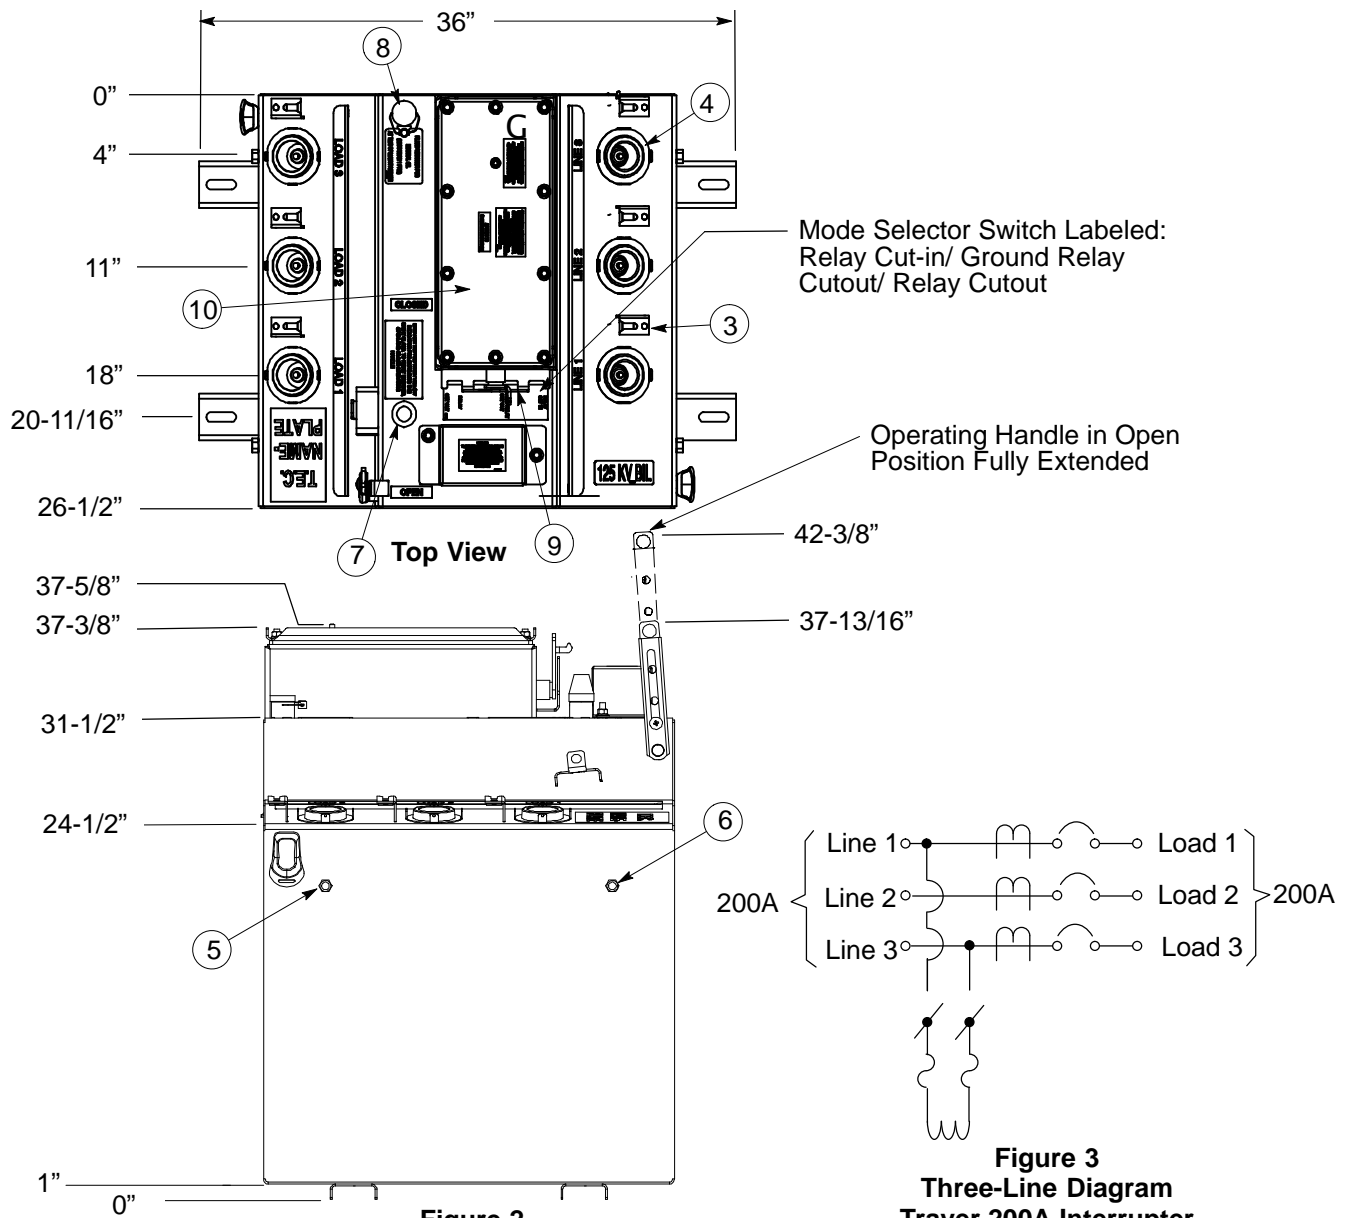

Figure 2
- (1) The internal relay is a Schweitzer SEL-551 (or 551C) microprocessor-based relay which contains surge protection, event recording, and harmonic filtering. The harmonic filtering will prevent nuisance tripping due to harmonics. Relay settings templates for these relays have been posted to the Distribution Planning Sharepoint.
- (2) A fiber optic communication cable link is installed on the 600A interrupter and switch-interrupter-switch such that the settings and event information can be safely and easily obtained just outside the equipment enclosure with a laptop computer. The small remote box at the end of the 20-foot fiber optic cable contains a fiberoptic-to-RS232 converter. The 200A interrupter can only be programmed by removing the cover.
- (3) An internal line-to-line potential transformer (PT) is installed along with an internal switch for 4.16 kV, 12 kV, 17.2 kV, or 20.78 kV operation. **Important:** This switch is on the face of the relay and **must** be put in the proper position to match the system voltage before energizing.
- (4) The internal step-up transformer always provides 120 V control voltage for relay operation. SCADA is not available on this equipment at this time.
- (5) The following are instructions for sealing the cover. New Trayer interrupters will have a faceplate outlining this process. "Cover Installation Procedure: Ensure that all sealing surfaces are clean and free from debris. Working in a clockwise direction, tighten all nuts until lock washers are compressed. Once lock washers are compressed, tighten all nuts an additional half turn each."
- (6) The Trayer 200A interrupter and switch-interrupter-switch have a mode selector switch that can cutout the ground in 1 step or both the phase and ground in the second step, turning an interrupter into a switch. The switch is labeled Relay Cut-in/Ground Relay Cutout/Relay Cutout. The Trayer 600A interrupter has a ground relay cutout switch, but does not have a relay cutout setting. For the location of these switches see Figure 2 on Page 5, Figure 11 on Page 14, and Figure 14 on Page 19 for the Trayer 200A, Trayer 600A, and Trayer Switch-Interrupter-Switch respectively.
- (7) Trayer interrupters with pressure plugs on the control housing must be pressurized with 5 psig of dry nitrogen when being sealed after opening in order to maintain a dry environment.